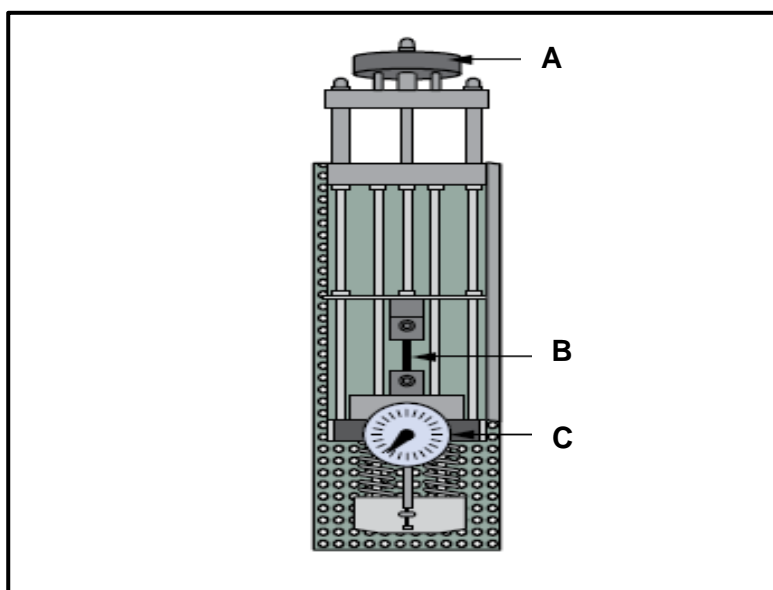

FIGURE 7.3
7.3 Study the diagram shown in FIGURE 7.3 below and answer the questions that follow.
7.3.1 What is the name of the engineering apparatus in FIGURE 7.3? (1)